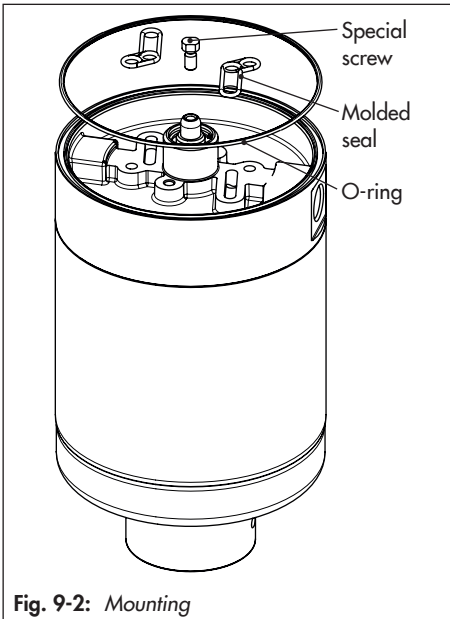

Fig. 9-2: Mounting
- Make sure that the O-ring and molded seal are inserted correctly on assembly (Fig. 9-2).